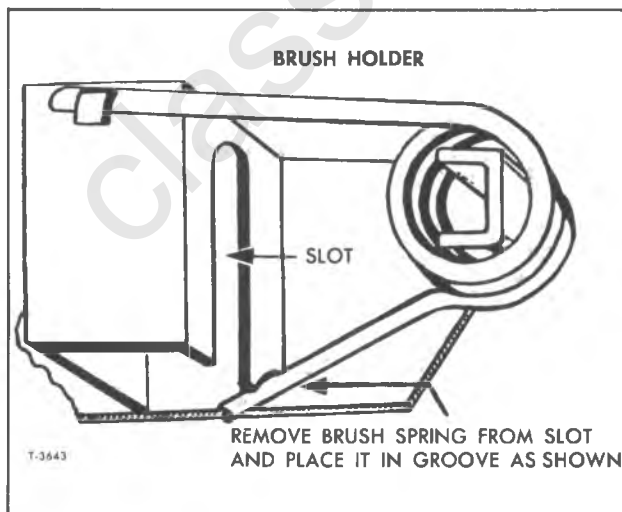

Figure 19—Releasing Brush Spring Tension
2. Remove brush tension by placing brush spring in holder groove as shown in figure 19.